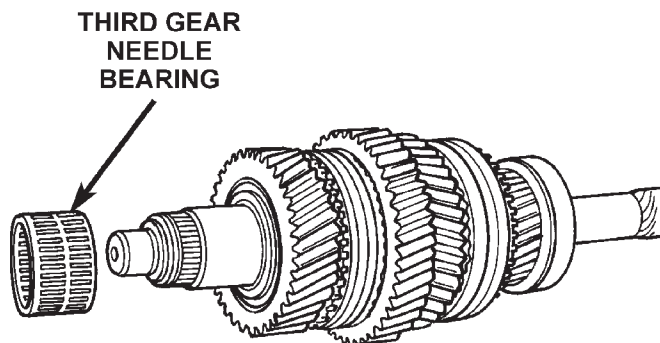

Fig. 38 Third Gear Needle Bearing Removal
(1) Remove snap ring that secures 3-4 synchro hub on output shaft.
(2) Remove 3-4 synchro assembly, third gear synchro ring, and third gear with shop press and Remover Tool 1130. Position Tool 1130 between second and third gears.
(3) Remove third gear needle bearing (Fig. 38).